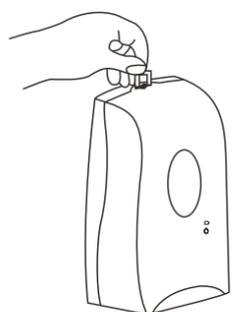

Fig2
- 2) After mounting the dispenser on wall, insert key in the slots on top of cover and depressing latch (Fig2)